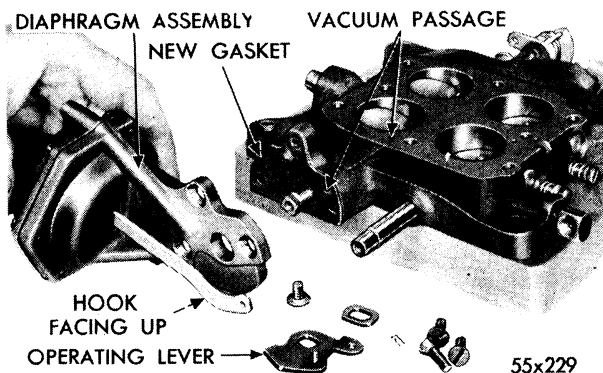

Fig. 16—Installing Vacuum Diaphragm Assembly
- (13) Slide the diaphragm plunger rod through the slot in diaphragm housing with the hook portion facing up as shown in Figure 16. (Be sure the vacuum hole in the diaphragm is aligned with vacuum passage.)
- (14) Install spring, cover and screws, then tighten securely. Install vacuum unit over the secondary throttle shaft and against the throttle body, using a new gasket as shown in Figure 16. Tighten screws securely.